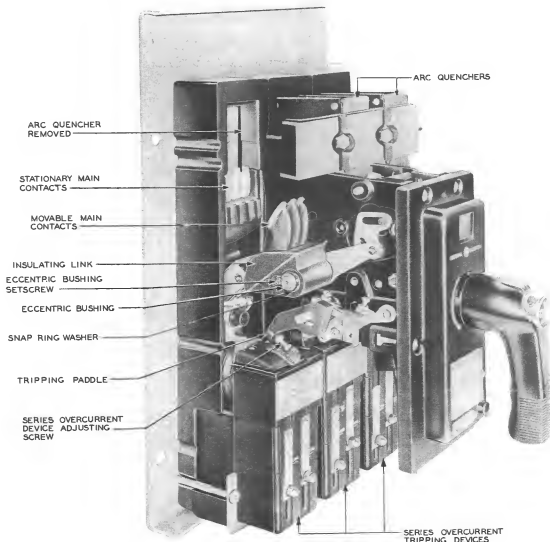

Fig. 3 — Breaker With First Arc-quencher, Rotary Auxiliary Switch, and Closing Solenoid Not Shown — Main Contacts in Open Position
Contact Surfaces: See Fig. 3—Main Contact Surfaces shall be clean and free from build-ups which might interfere with reliable contact. Inspect annually or after tripping due to a short circuit.
#2.05 Contact Pressure: See Fig. 3 — The contact pressure of the main contacts shall be between 4 and 11 pounds (approximately 1800 and 5000 grams) for reliable contact.
#2.07 Arc Quenchers: See Fig. 3 — The arc quenchers are provided to prevent damage to other parts of the breaker when a severe
(1) The main contacts as shown in Fig. 3 may become pitted or burned after the breaker has opened several times due to short circuits. Clean, smooth, or replace contacts, as required.